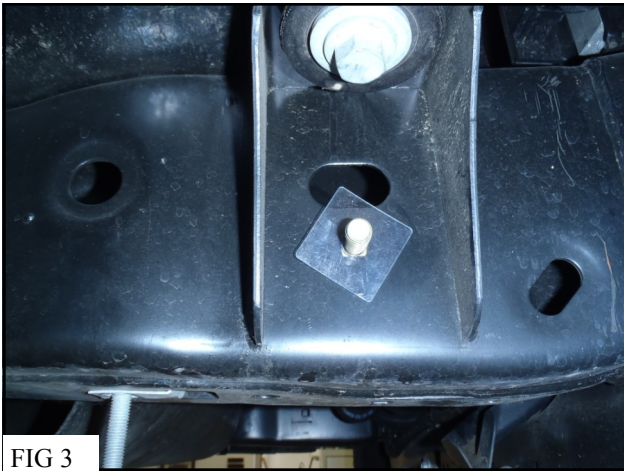

FIG 3
5. Take (1) M12 carriage bolt and insert it through the bigger hole in the frame and into the square hole underneath, place (1) plastic retainer over the threads to keep the bolt from falling into the frame Fig 3. Move to the front of the frame and insert (1) M12 bolt plate into the most rearward hole in the frame. Take (1) double nut plate and place it over the two front remaining holes Fig 4. Take the drivers side bracket and attach it to the previously installed carriage bolt using, (1) M12 flat washers, (1) M12 lock